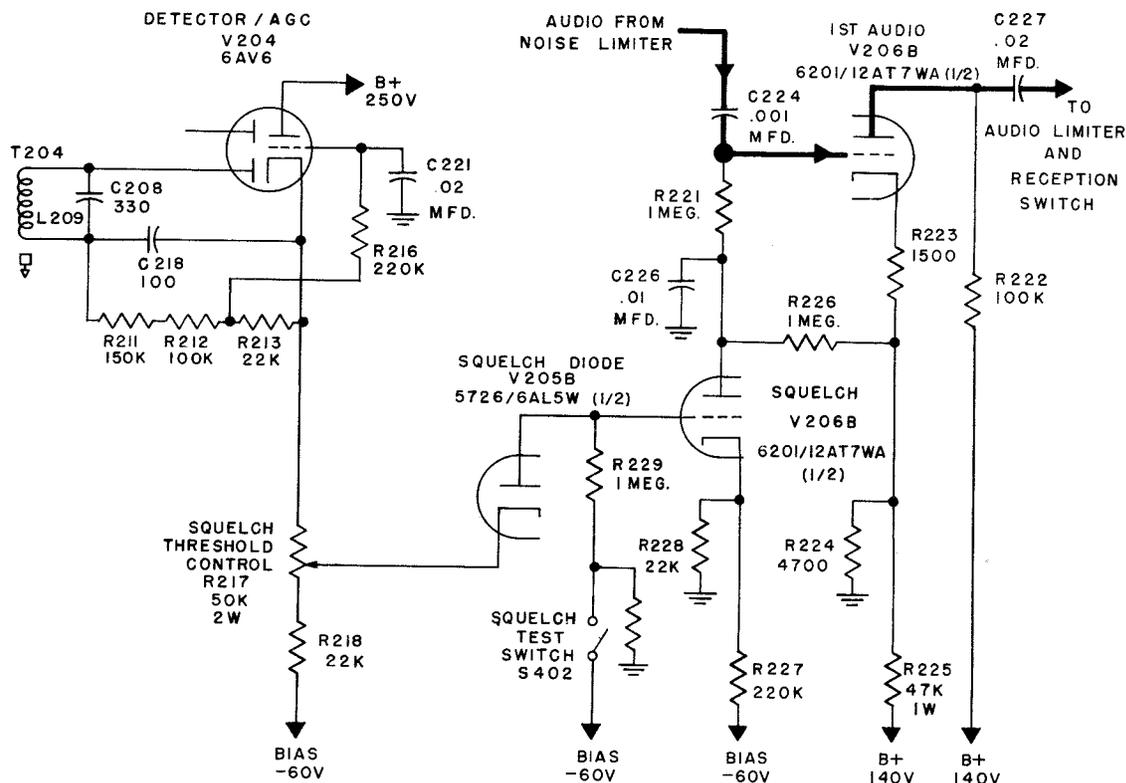

Figure 2-15. Simplified Schematic, Squelch and First Audio
(5) SQUELCH OR SILENCER CIRCUIT.—A squelch system consists essentially of a method of assessing the reception conditions and disabling the receiver when the desired signal is not present. In the simplified squelch circuit in figure 2-15 silencing of the receiver is accomplished by biasing the grid of the first audio amplifier, V206A, beyond cutoff. The squelch circuit is only operative in the A2-A3 reception position.